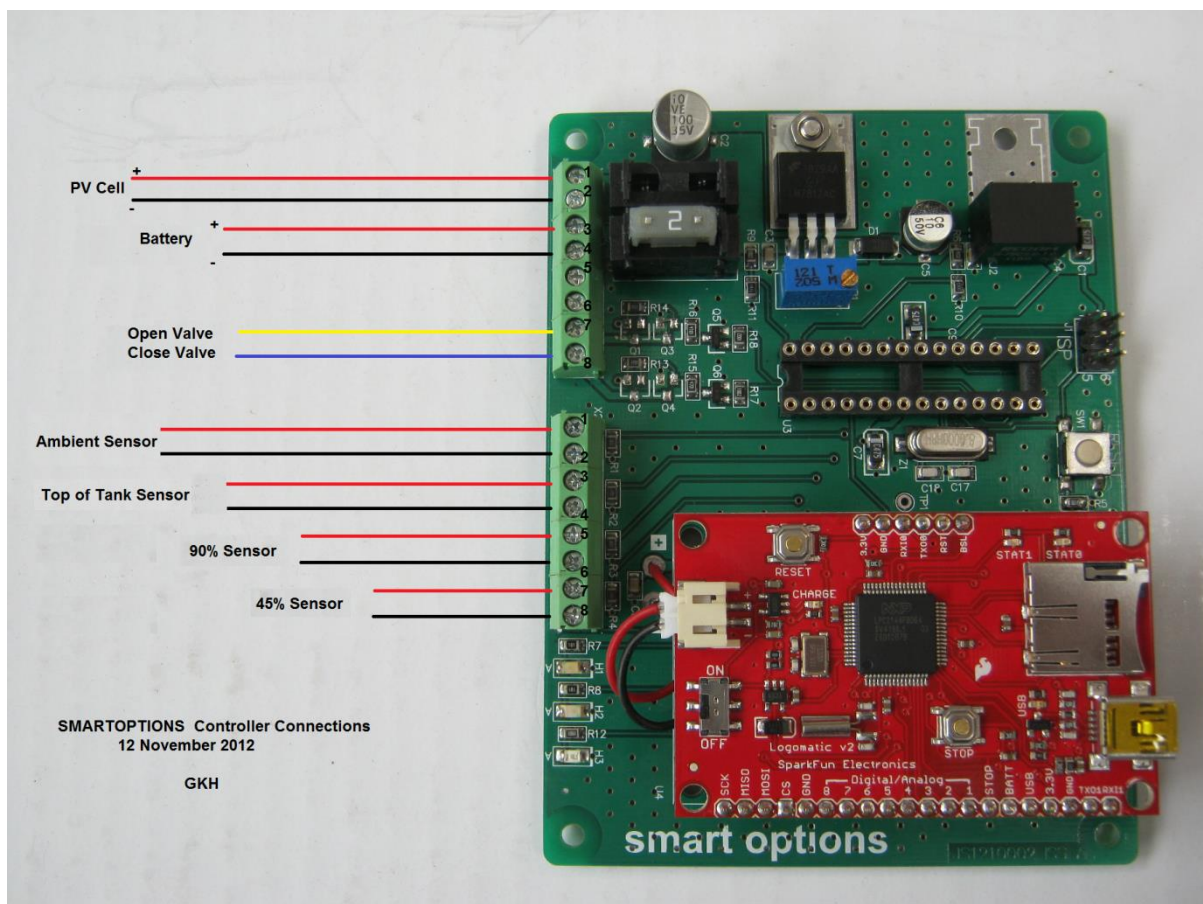

Figure 2: Microcontroller unit
The monitoring system has been set up in Room 318 by the window (enter via room 319). Figure 2 is an annotated photo of the circuit board. The system has four temperature sensors: (1) ambient temperature, (2) temperature of the top of the tank, (3) 90% sensor and (4) 45% sensor. You will only need to use the 90% and 45% sensors in this experiment. You should be able to work out what is meant by 90% and 45% sensors from the relevant section of AS 3498.
Use Figure 2 to determine which temperature sensors correspond to 1-4 above.